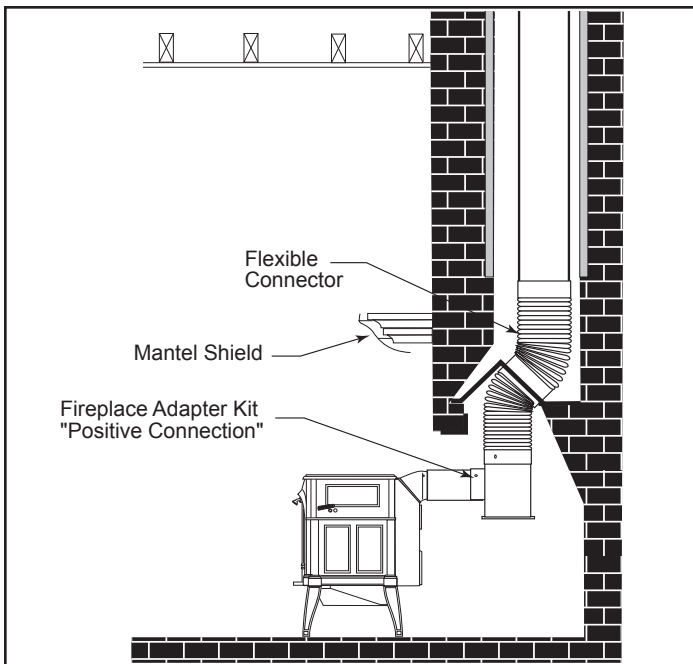

Figure 2.7 - Through the fireplace installation.
1. Using a #2 Phillips screw driver attach the flex adapter to the appliance using 4 screws, Figure 2.7.
If your fireplace opening height is at least 29" (737 mm), you may install your appliance through the opening using a “positive connection” kit, available from your local dealer. Positive connection kits ensure a tight fit between the stove flue collar and the chimney flue, Figure 2.7.